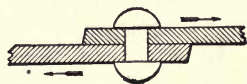

FIG. 105.
3. To what stress is a boiler seam rivet subjected? (See Fig. 105.)